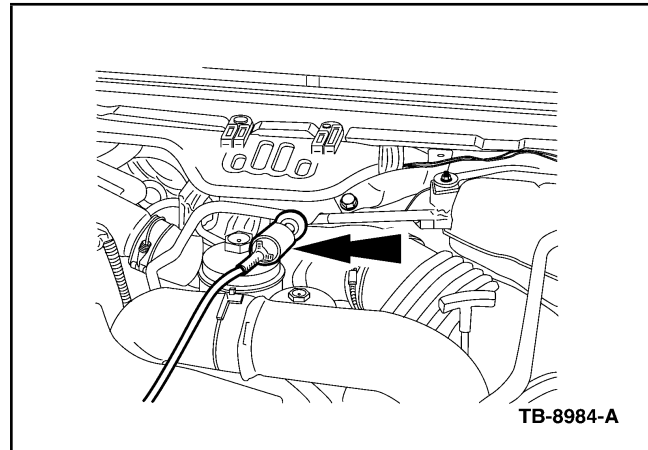

Figure 4 - Article 09-8-3
- a. Install the vehicle measurement module (VMM) pressure vacuum transducer (PVT), or Rotunda Pressure Adapter Kit 014-00761, or equivalent. (Figure 4)